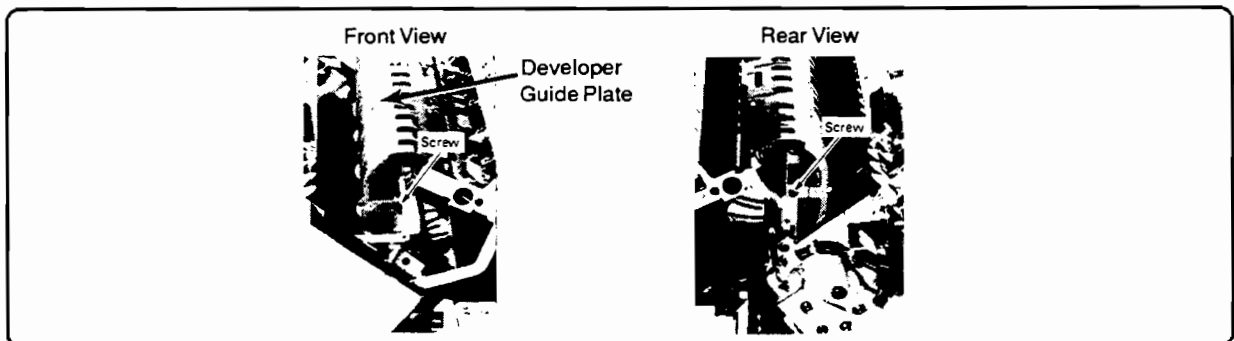

Figure 6-126. Stacker-FM1 Removal
2. Inside the Switchback assembly, raise the duplex guide plate (green handle); then remove the screws on the front and back sides (one each - Figure 6-126).